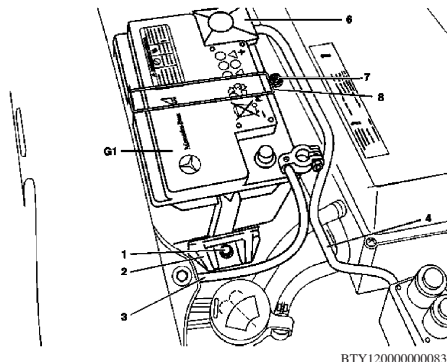

Fig. 1 Battery removal
3. Disconnect battery ground cable (3), Fig. 1. Connect quiescent current retention unit, if required.
4. Remove nut (7) and remove strap (8), Fig. 1.
5. Disconnect positive cable (4), Fig. 1.
3. Install strap (8), Fig. 1.